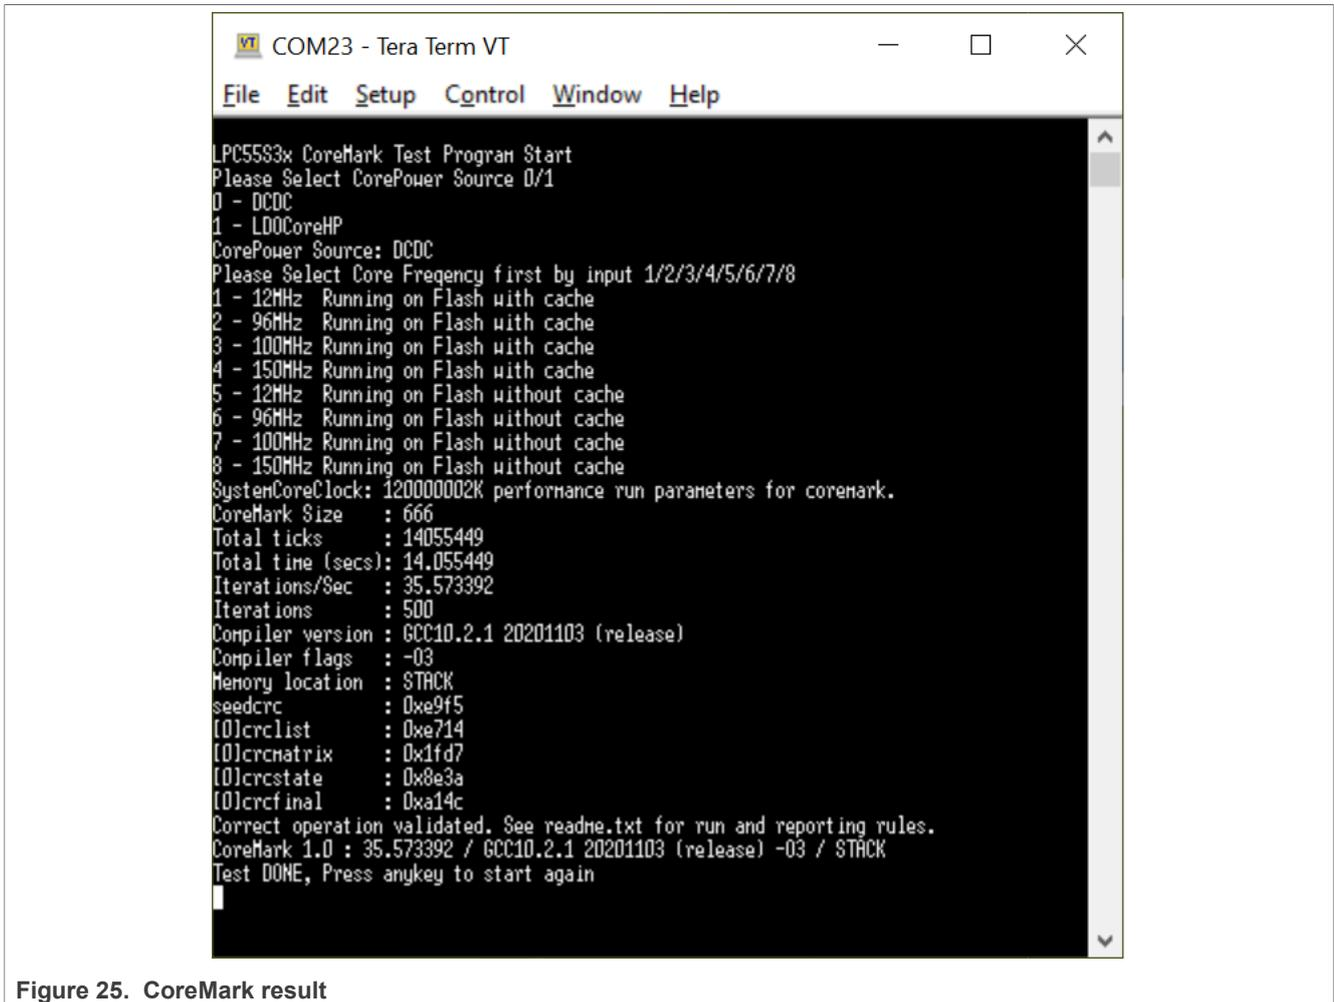
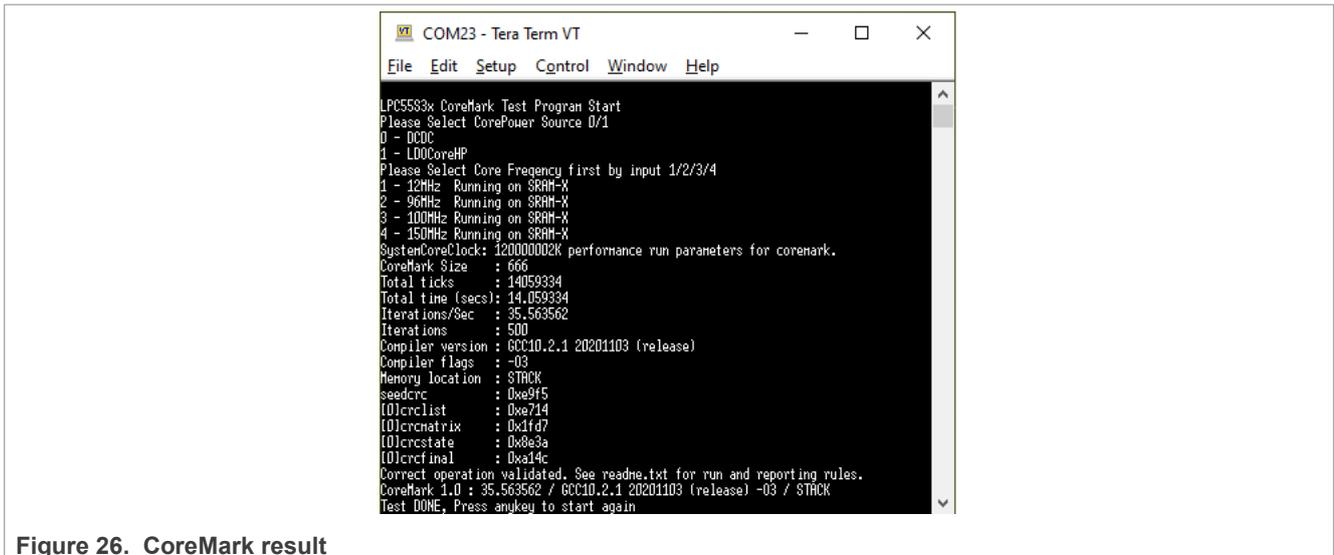

Figure 25. CoreMark result
Figure 26. CoreMark result
- The CeMark benchmark prints on the terminal after a few seconds, as shown in Figure 25.
Figure 25 and Figure 26 show the CoreMark benchmark result when running LPC553x/LPC55S3x at 12 MHz core frequency in the MCUXpresso IDE. The CoreMark benchmark score is the number of iterations per second. The CoreMark/MHz score executing from an internal flash for this run is $35.573392/12 \text{ MHz} = 2.964 \text{ CoreMark/MHz}$.